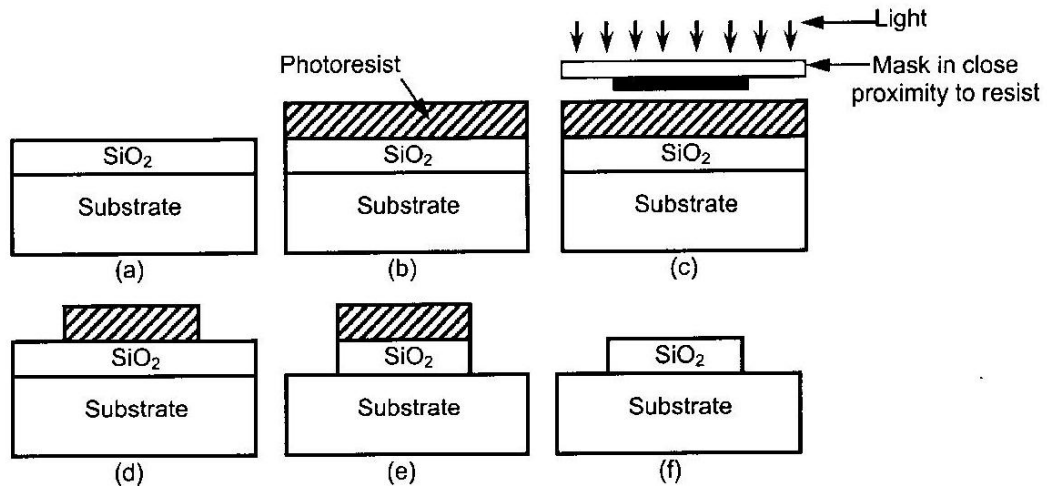

Figure 2
4. Figure 2 shows a wafer undergoing the various steps of a photolithography process.